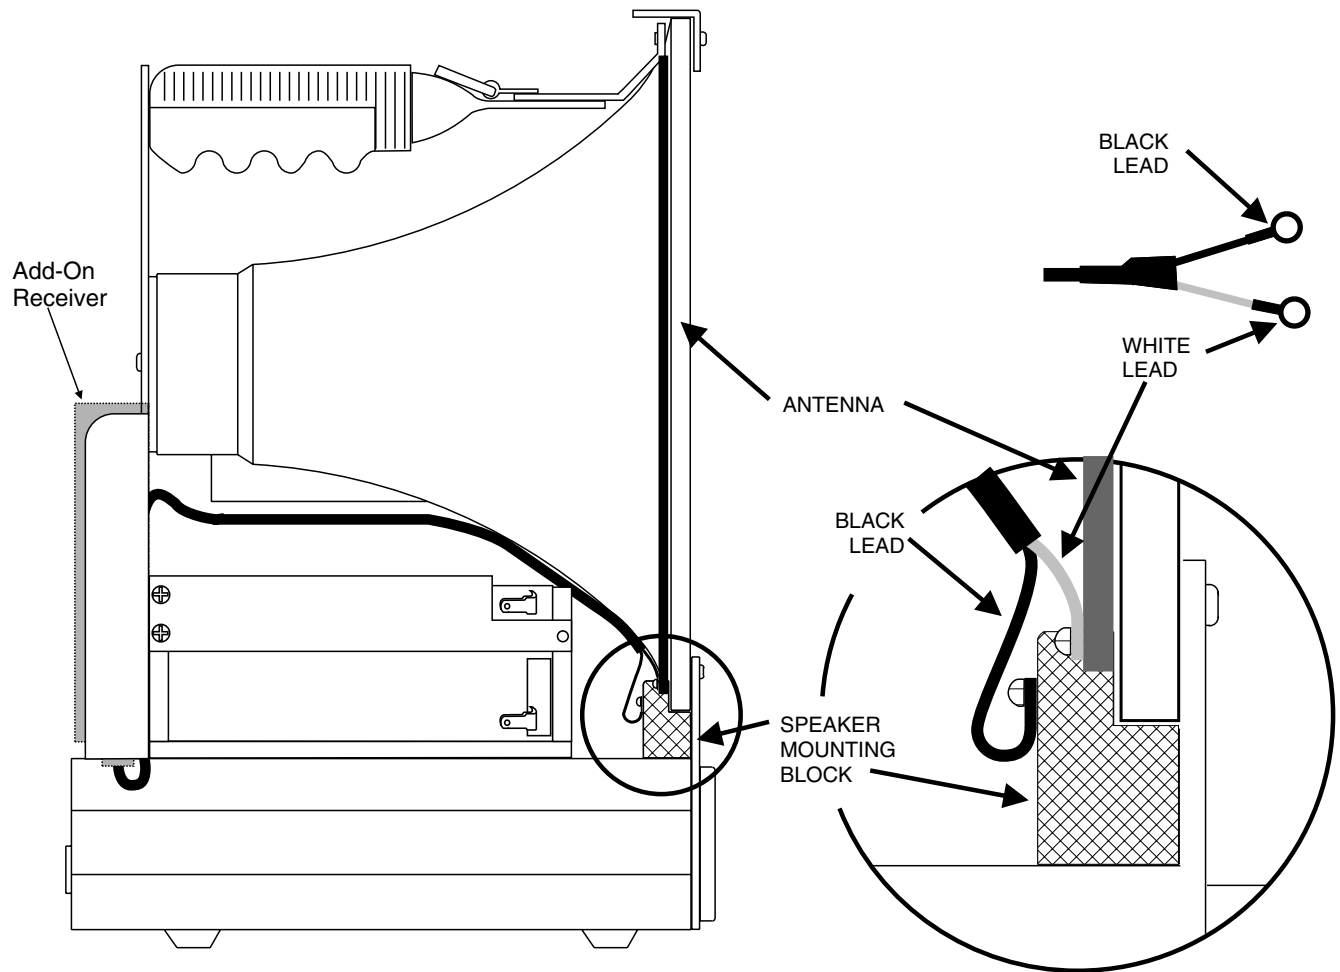

Figure 4 - Add-on Receiver Antenna Connections
The Add-On receiver is supplied with velcro attaching strips and is equipped with the necessary cabling for making the connections to the LONG RANGER III. The receiver is installed on the LONG RANGER III by performing the following steps as shown in Figure 4:
- 1) The antenna cable for the Add-On is packed together with screws, lock washers and the velcro strips. The antenna cable is terminated with two ring lugs. Feed the lug end of this cable through the hole in the LONG RANGER III rear panel upright. Dress the cable along the top of the battery pack along with the speaker wires as shown in Figure 4.